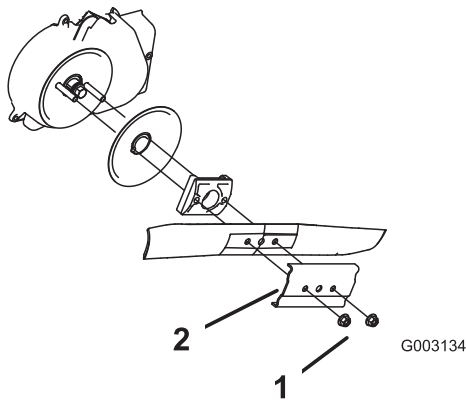

Figure 36
3. Remove the 2 blade nuts and the stiffener (Figure 36).
4. Remove the blade (Figure 36).
5. Install the new blade (Figure 36).